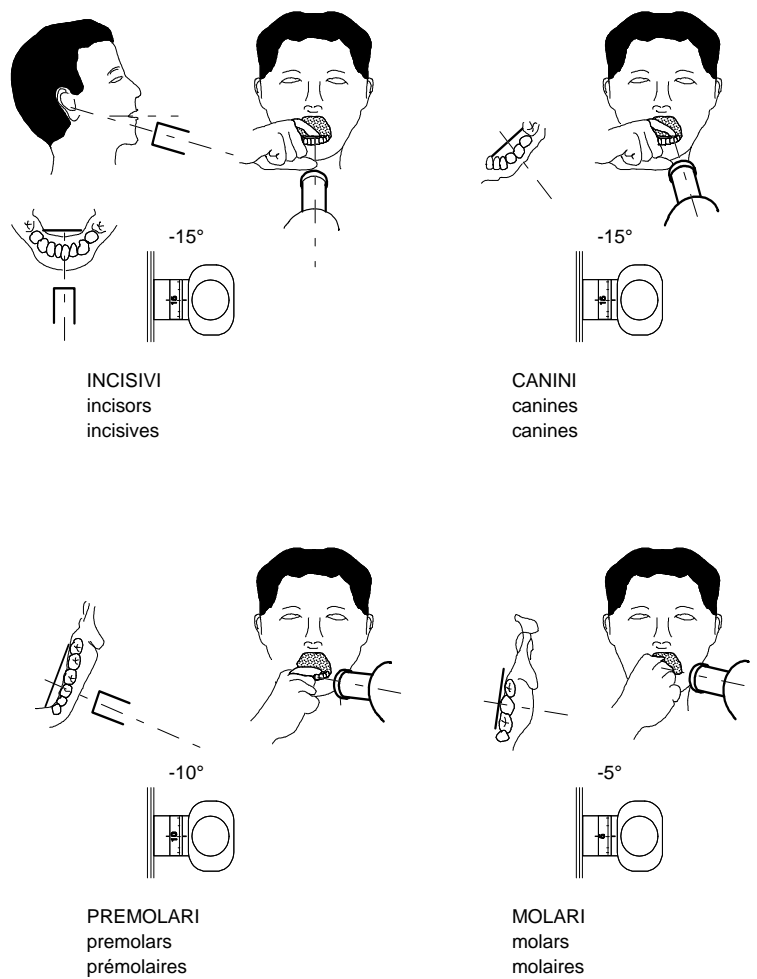
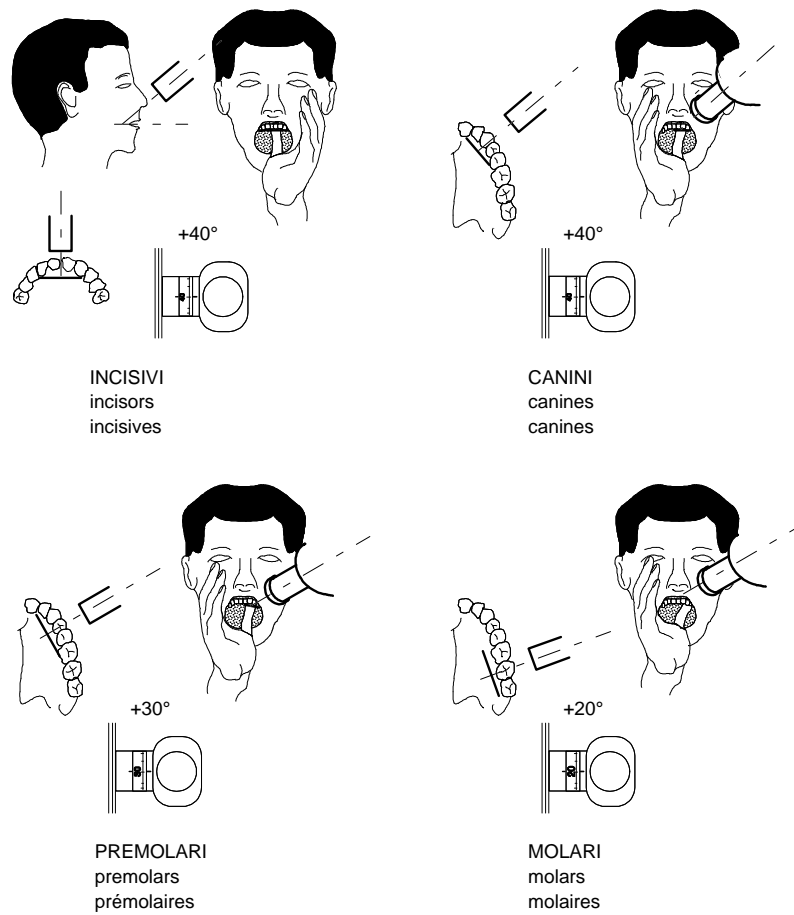
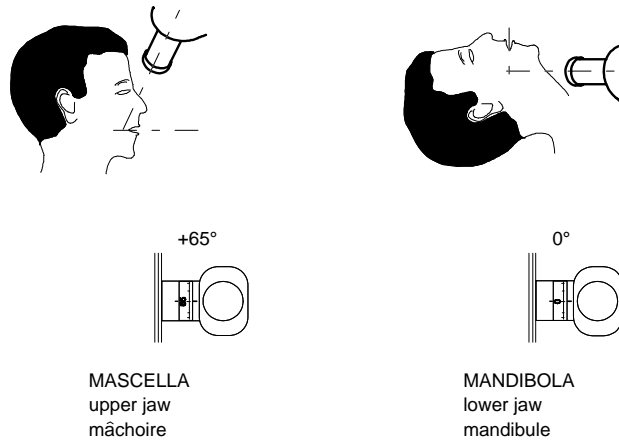
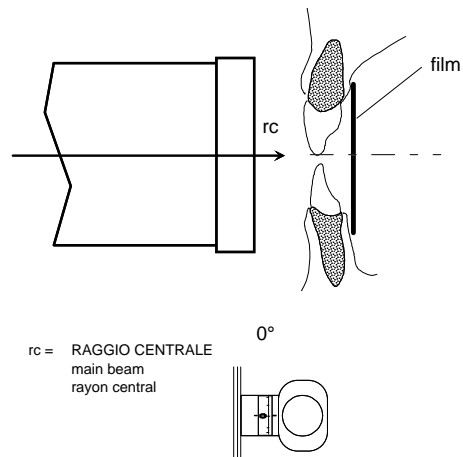

Figure 10
Figure 11
Figure 12
Figure 13
1. Position the tube-head with an angle suitable for the exposure and positioning required (see Figure 10, Figure 11, Figure 12, Figure 13).